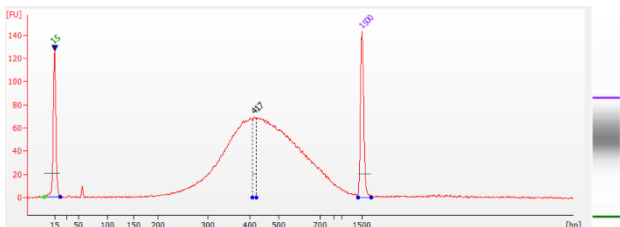

Figure 2 Agilent 2100 Bioanalyzer Fragment Size Distribution Results of the Purified PCR Product
- 3.8.2 Assess the fragment size distribution of purified PCR products with electrophoresis-based equipment such as Bioanalyzer, Tapestation (Agilent Technologies), LabChip[®] GX, GXII, GX Touch (PerkinElmer), or Fragment Analyzer (Advanced Analytical). Figure 2 shows the final size distribution of purified PCR products obtained by the standard library construction protocol.